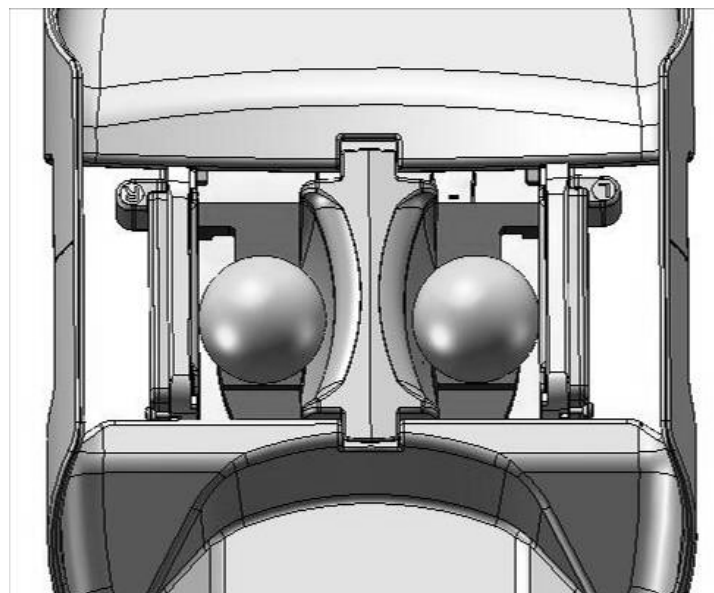

Figure 65: 4 Channel - Phantom Set-Up
4. Add spherical GE phantoms and move the lateral coils to their lowest possible position. Adjust lateral coils towards the phantom so that they lightly touch the phantoms as shown in Figure 65.